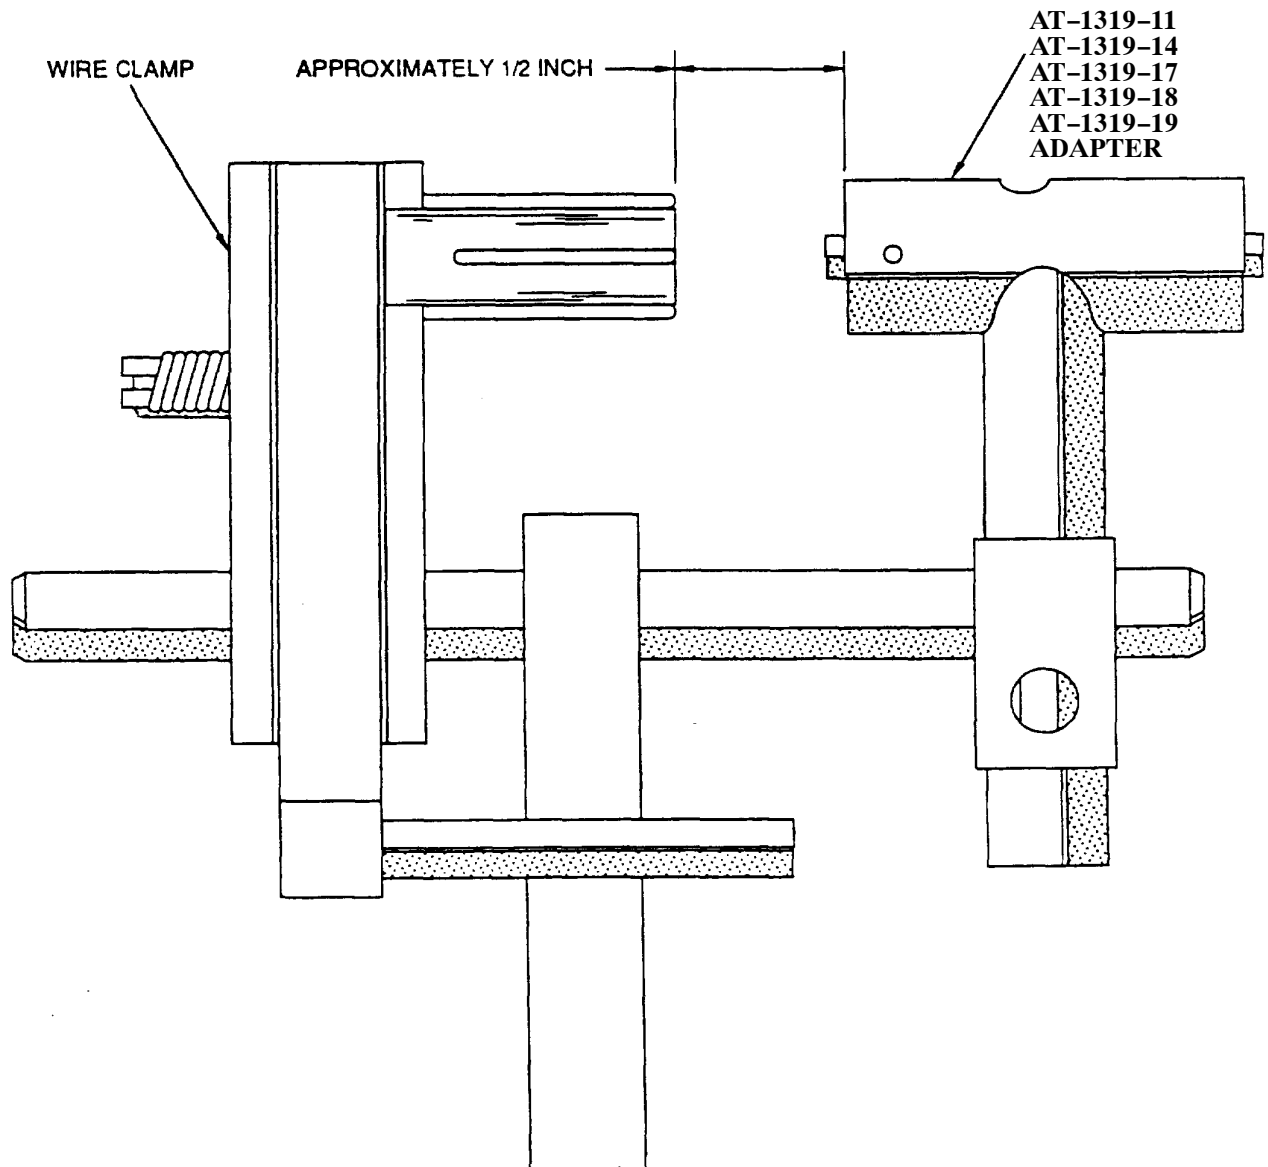

Figure 14. Holding Fixture and Adapter Setup
- Set up holding fixture and adapter as shown (Figure 14).
- b. Set up holding fixture and adapter as shown (Figure 14).